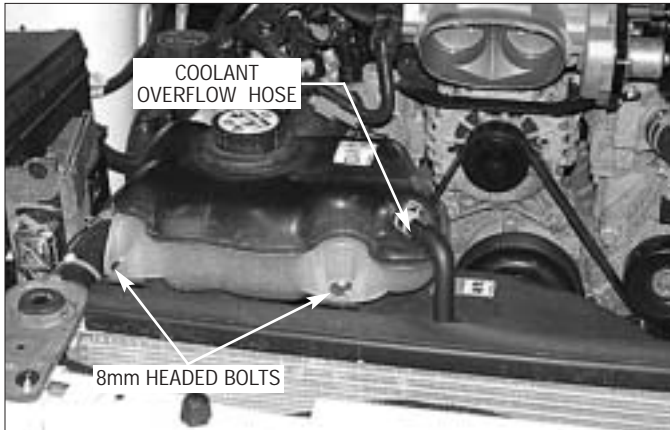

Fig. 1-f
- H. Remove the large hose connecting the thermostat housing to the bottom of the overflow reservoir. Set the hose and reservoir aside to be reinstalled in a later step. (See Fig. 1-g.)